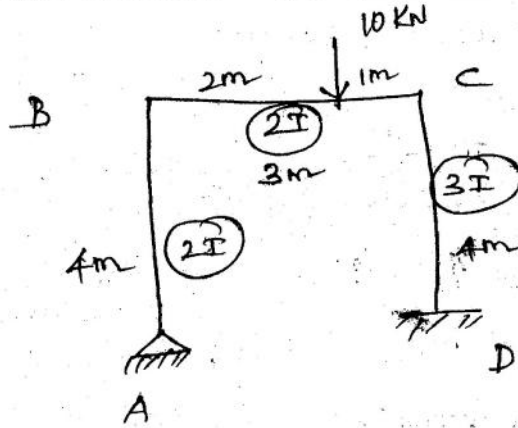

Figure-6
6. Analyse the portal frame shown in figure-6 by flexibility method.